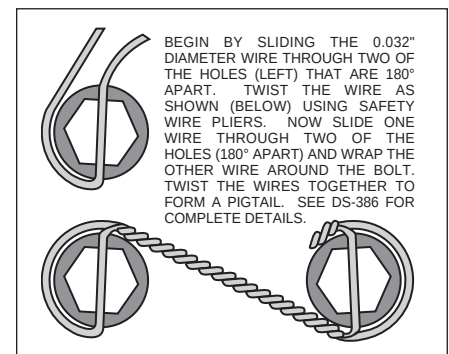

Figure 4. Safety Wire Diagram
- With the larger I.D. side of the rotor (6) facing away from the hat (7), bolt the rotor (6) to the hat (7) through the backside of the rotor using washers (8) and bolts (9) provided in the configuration pictured in figure 1. Using an alternating sequence, apply red *Loctite*® 271 to the threads and torque bolts to 155 in-lb. For an added measure of security, the bolts may be safety wired using standard 0.032 inch diameter stainless steel safety wire as shown in Figure 4. Please refer to Wilwood's data sheet DS-386 (available at www.wilwood.com/Pdf/DataSheets/ds386.pdf) for complete safety wire installation instructions.
- Lubricate caliper mounting studs (13) and nuts (11) with lightweight oil. Install two shims (14) over each stud (13) on the radial mount bracket. Slide the caliper (10) in place over the studs and rotors and install the washer (12) and lock nut (11) to hold the caliper in place. The caliper bleed screws should be pointing up. Snug the lock nuts (11) and check that the rotor (6) is centered in the caliper (10). Add or subtract shims (4 and/or 5) as necessary between the mounting bracket (1) and the spindle to center the caliper (10).